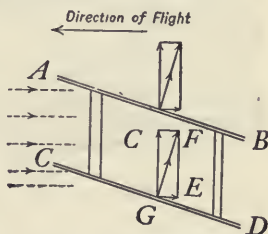

FIG. 64.—Resolution of the forces acting on an aeroplane.
83. The Aeroplane.—The aeroplane consists of one or two frames $ABCD$ (see Fig. 64), over which is stretched cloth or thin sheet metal. It is driven through the air by a propeller turned by a powerful gasoline motor. This has the effect of creating a strong breeze coming toward the front of the aeroplane. As in the case of the sailboat a pressure is created at right angles to the plane along GF and this may be resolved into two components